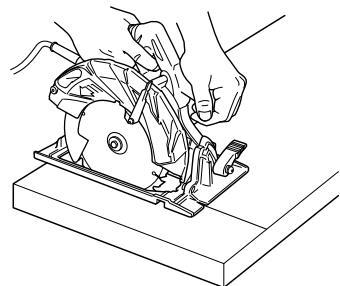
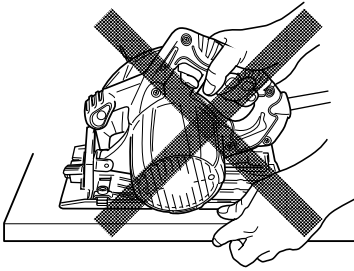

Fig. 11
Fig. 12
- Place the wider portion of the saw base on that part of the work piece which is solidly supported, not on the section that will fall off when the cut is made. As examples, Fig. 11 illustrates the RIGHT way to cut off the end of board, and Fig. 12 the WRONG way. If the work piece is short or small, clamp it down. DON'T TRY TO HOLD SHORT PLACES BY HAND!